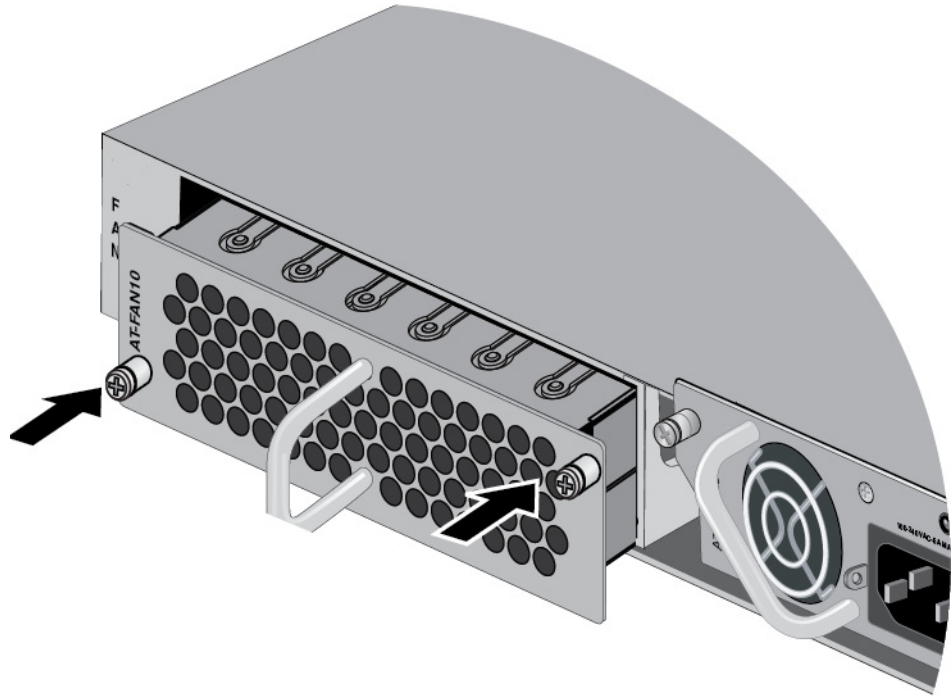

Figure 76. Seating the FAN10 / FAN10R Module on the Internal Connector
2. When you feel the module make contact with the internal connector, gently press on both sides to seat the module on the connector. Refer to Figure 76.